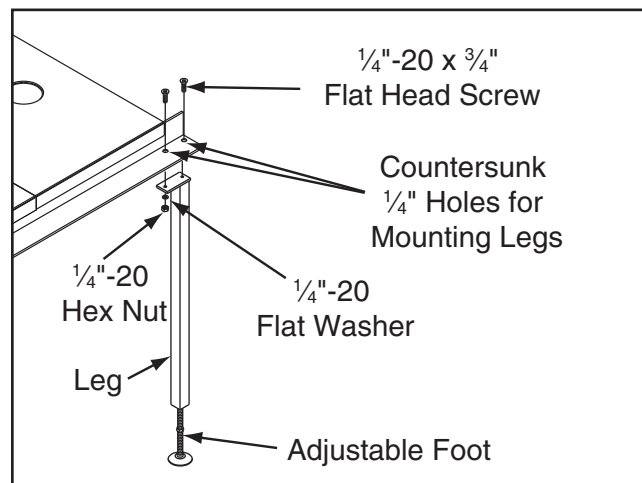

Figure 9. One of two legs secured to rail for supporting router table.
9. Use (4) $\frac{1}{4}$ "-20 x $\frac{3}{4}$ " flat head screws, (2) $\frac{1}{4}$ " flat washers, and (2) $\frac{1}{4}$ " hex nuts to secure the legs to the fence rails, as shown in **Figure 9**.
Note: If your rails do not have mounting holes to accommodate the router table legs, you may need to drill holes in the end of the rails to allow the legs to be fastened, as shown in **Figure 9**.